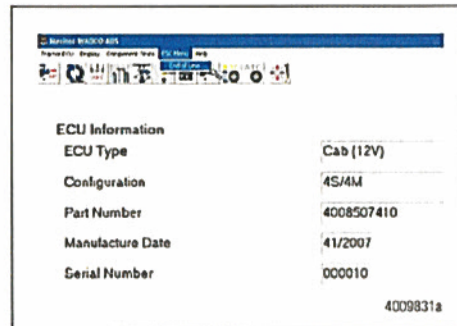

Figure 11
2. On the main Screen, click "ESC Menu" and select "End-Of-Line". Figure 11.